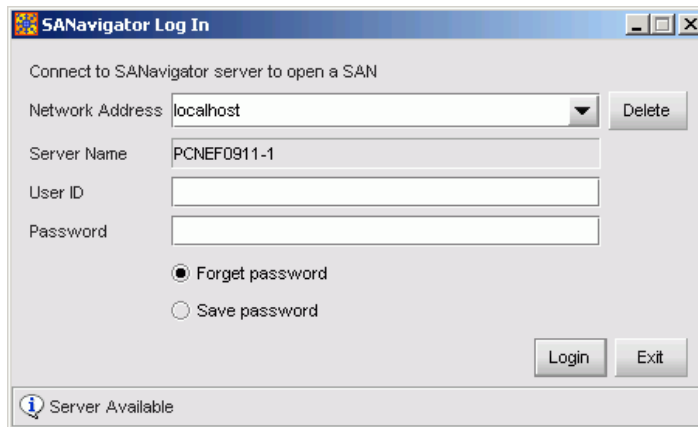

Figure 2-49 SANavigator Log In or EFCM Log In Dialog Box
5. Type the default Windows 2000 user name and password and click OK. The management server's Windows 2000 desktop opens and the *SANavigator Log In* or *EFCM Log In* dialog box displays (Figure 2-49).